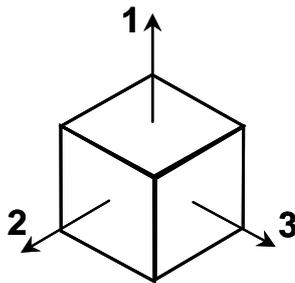

Figure 1
- † 2. (a) Figure 1 shows a typical element of material with Young's modulus  $E$  and Poisson's ratio  $\nu$ , which is subjected to normal stresses  $\sigma_1$ ,  $\sigma_2$  and  $\sigma_3$ . Derive simultaneous equations for the strain in each direction  $\varepsilon_1$ ,  $\varepsilon_2$  and  $\varepsilon_3$ , as a function of these stresses.
\* 4. A cube of linear elastic material (as in Figure 1) is again subjected to a compressive stress  $\sigma_1$  in the 1-direction, but is now constrained ( $\epsilon = 0$ ) in both the 2 and 3 directions.